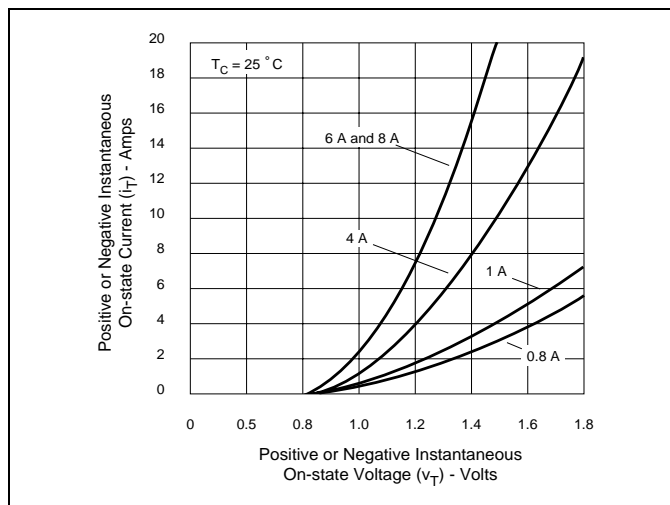

Figure E1.4 On-state Current versus On-state Voltage (Typical)
- (1) For either polarity of MT2 with reference to MT1 terminal
- (2) For either polarity of gate voltage  $V_{GT}$  with reference to MT1 terminal
- (3) See Gate Characteristics and Definition of Quadrants.
- (4) See Figure E1.4 for  $i_T$  versus  $v_T$ .